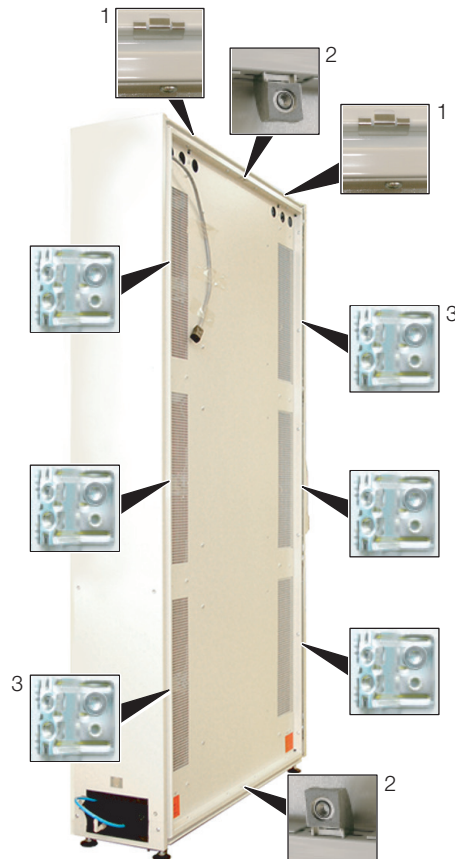

Fig. 6: Assembly components for the side panel
- Place both side panel mountings (Fig. 6, Pos. 1) as symmetrically as possible onto the upper mounting rail of the LCP and, using your hand, press them firmly in place.
- Screw down the two side panel mounting brackets (Fig. 6, Pos. 2) above and below in the middle of the mounting rail using one screw each.
- Screw down 3 side panel holders (Fig. 6, Pos. 3) onto each of the two side mounting rails with one screw each.